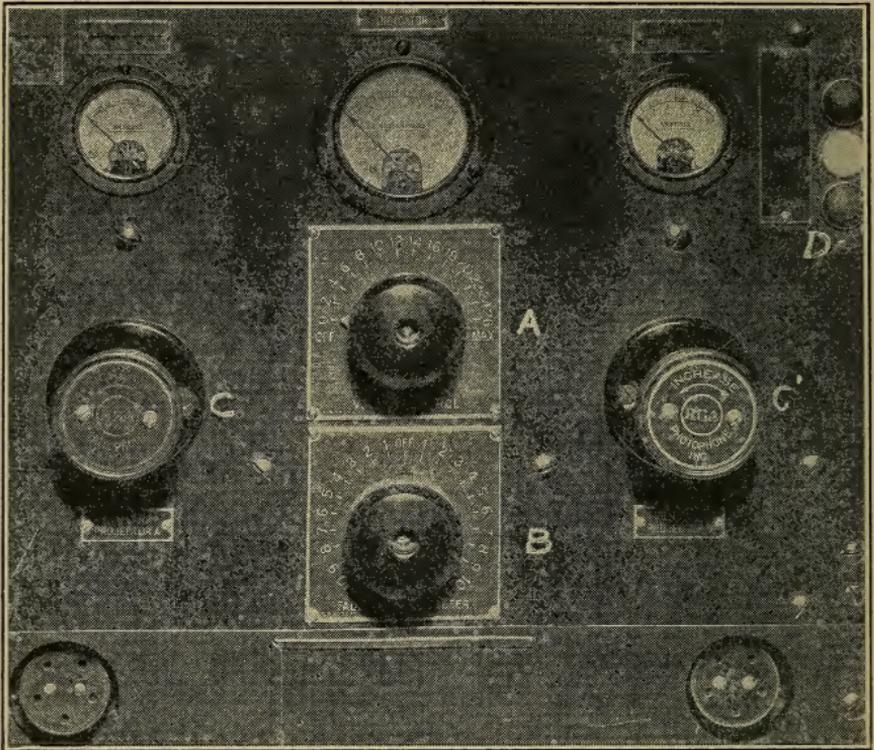

Figure 419.
INPUT CONTROL PANEL.—Fig. 419 affords us a view of the RCA Photophone input control panel. A indicates the knob by means of which the volume of sound is controlled. It will be observed that there are twenty-six (26) steps, each one of which means a difference in sound volume.